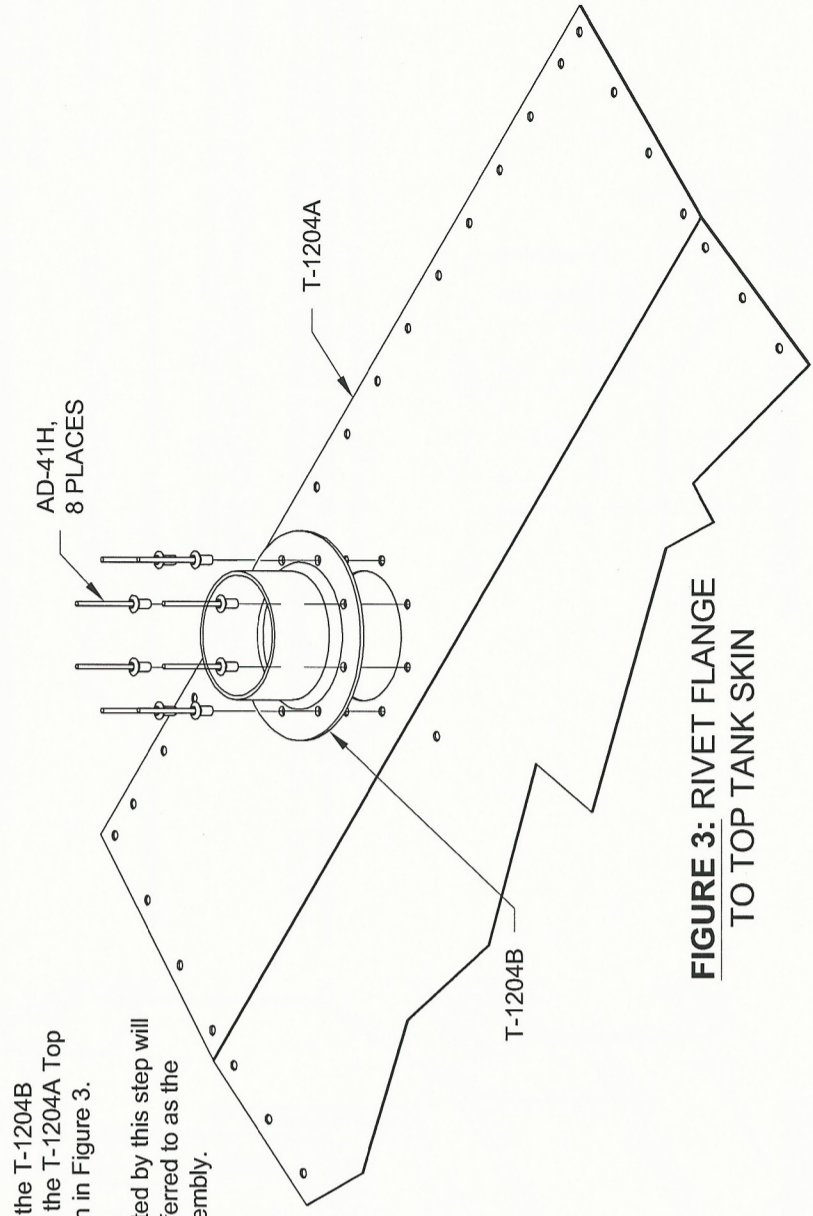

FIGURE 3: RIVET FLANGE TO TOP TANK SKIN
Step 10: Blind rivet the T-1204B Flange to the top of the T-1204A Top Tank Skin as shown in Figure 3.